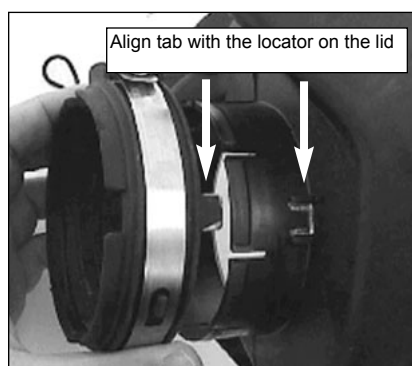

Fig. 3
12. If the rubber adapter for the Mass Air sensor did not stay on the airbox lid during removal, re-install it making sure to align the tab on the adapter to the locator on the lid. (Fig 3)